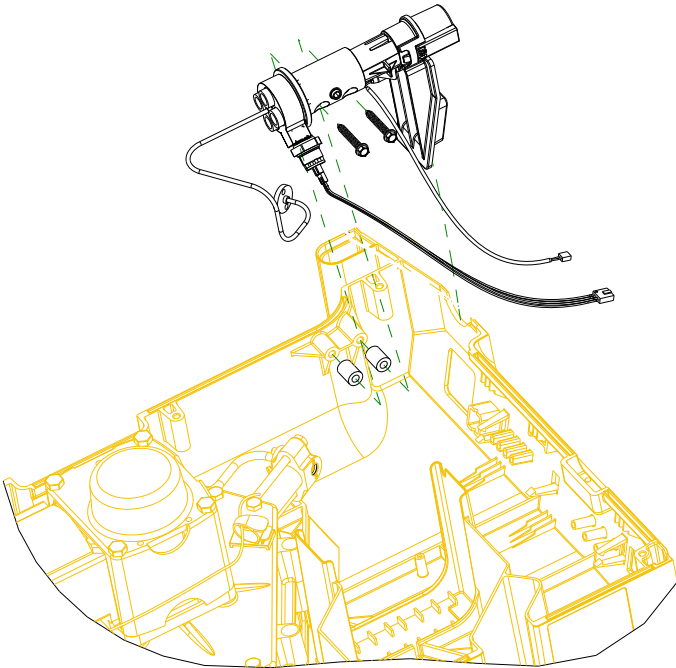

FIGURE 8-5 VALVE ASSEMBLY
6. Remove the two 5/16" Hex Head screws from Valve body. Refer to Figure 8-5.